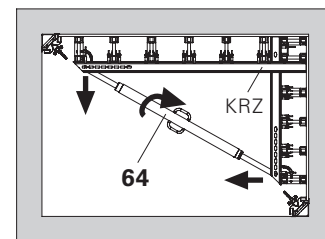

Fig. C3.04
3. Pull out wedge and remove EKZ Corner Coupling and internal elements. (Fig. C3.04)
Install grippers or spindle, e.g. SLS (64), at every waler position on the internal element. The internal element can then be removed more easily from the concrete. (Fig. C3.04)